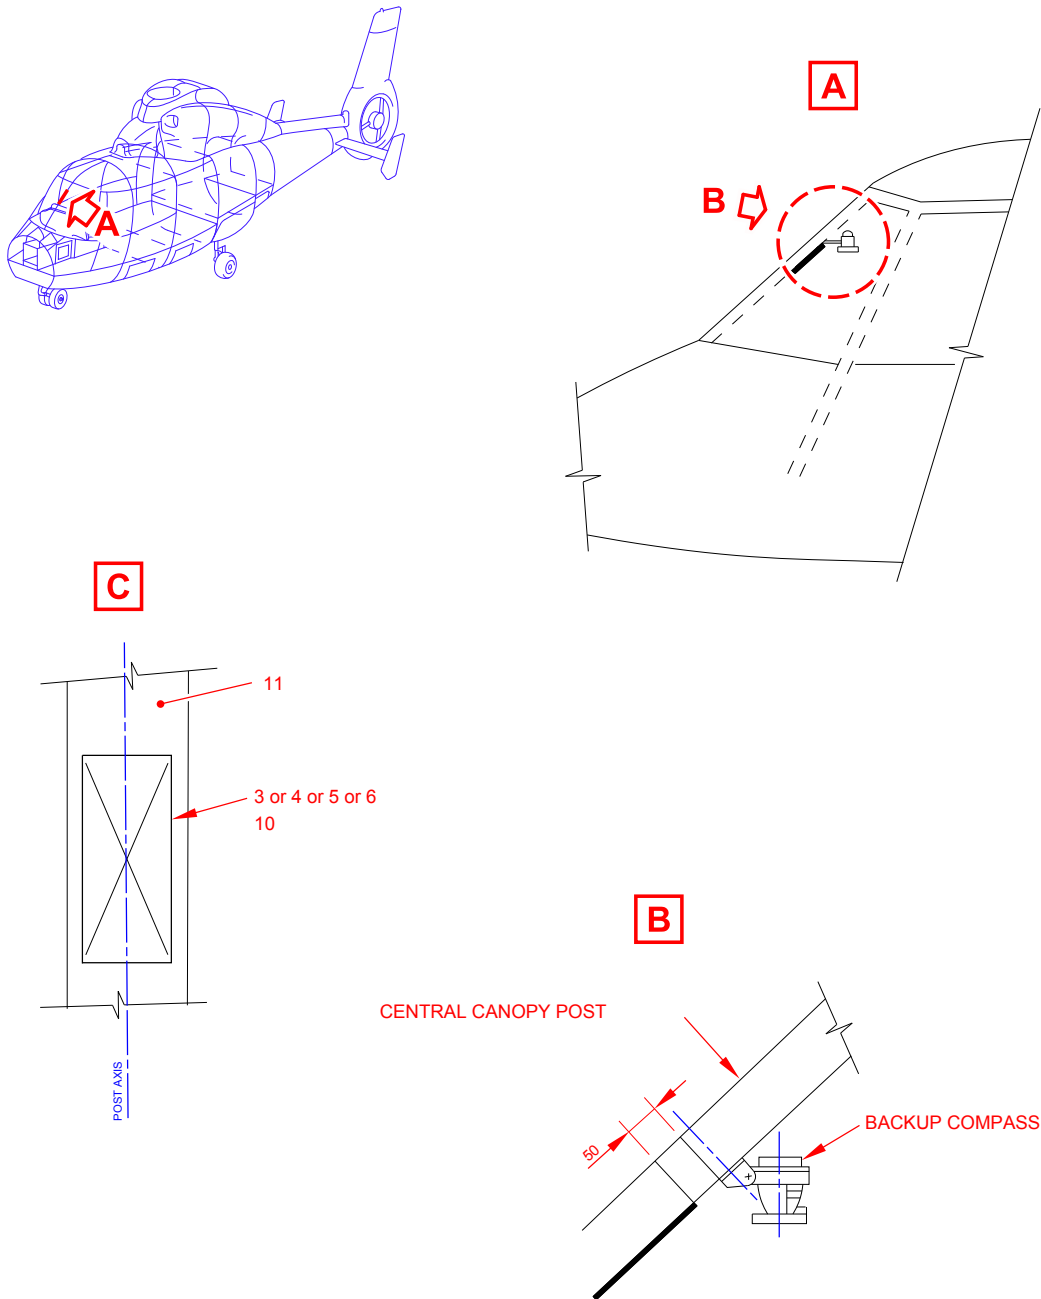

Figure 2
- 4.1.2. For the AS365-F and AS365-Fi versions (Figure 2):